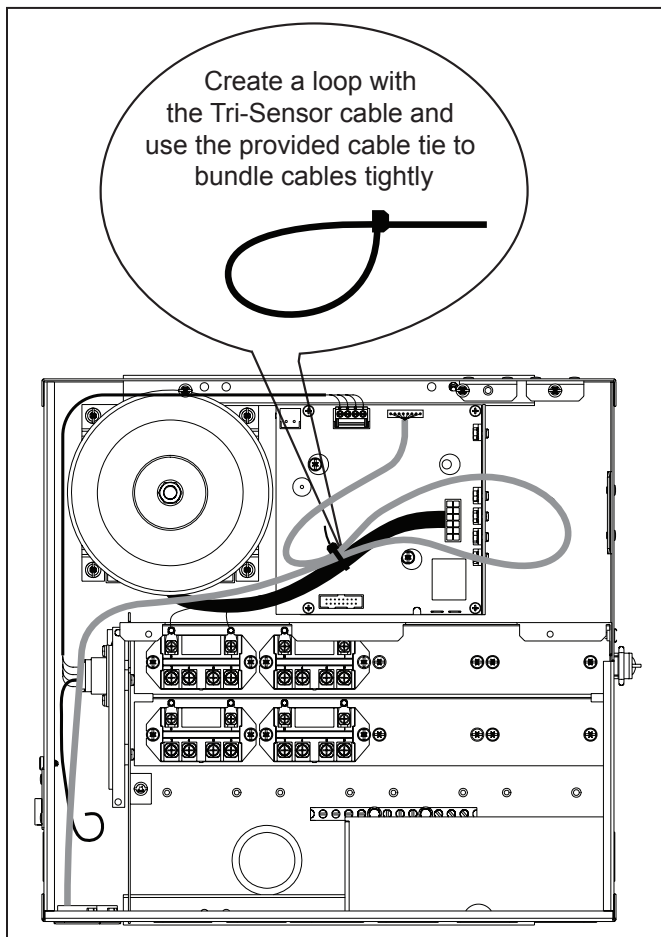

Figure 3. Cable Tie Installation for strain relief
6. Install cable tie for strain relief as shown in figure 3.
8. Secure PureLink User Interface panel assembly to Power Center using the two (2) screws removed in step 2.